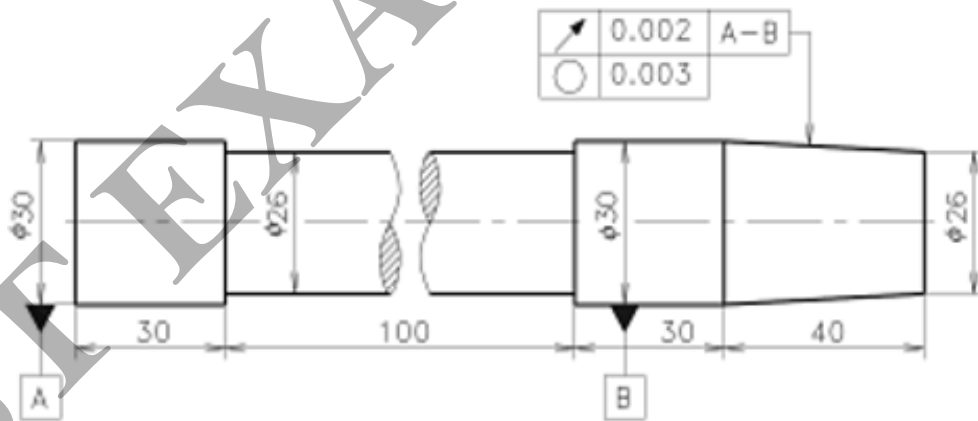

Figure 6: Spindle of a grinder.
6. Describe the geometric tolerances for the figure 6 below.